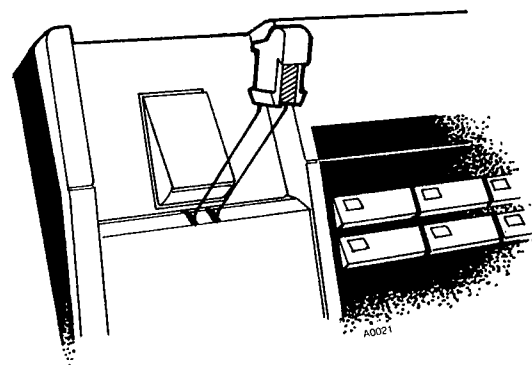

Figure 3 INSERTING HANDSET BRACKET, EK-616
- *Insert the handset bracket in the station housing below hookswitch ( Figure 3 ).*